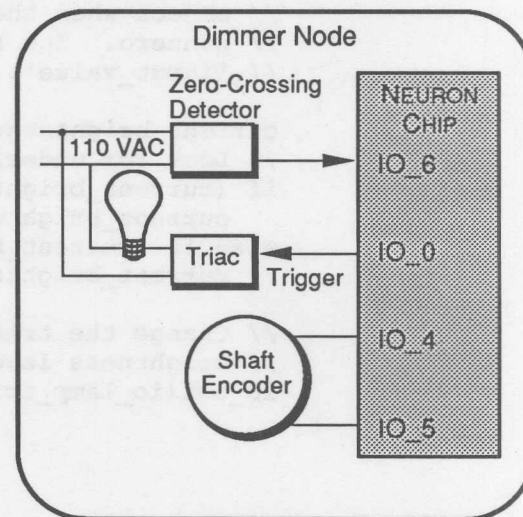

Figure 2-8. Sample Dimmer Node
The following example shows NEURON C code for a simple light dimmer. The example uses two I/O objects, a triac control circuit to control the lamp brightness and a quadrature input to select the light level (see Figure 2-8). For the triac output object, a value of 320 is maximum brightness, and a value of 0 is OFF. The initial value on power up is OFF (0).